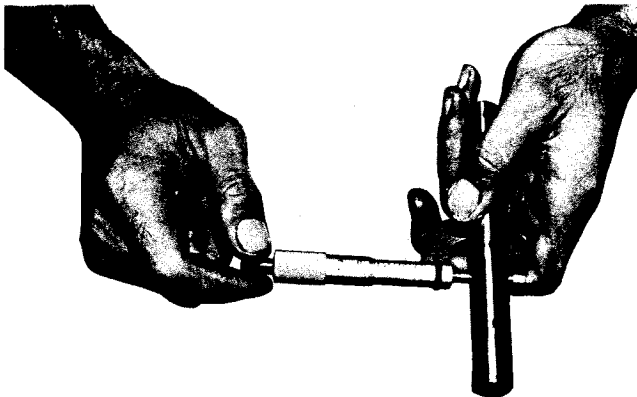

Fig. 4-5, (N10411). Measuring cam follower shaft
1. Measure O.D. of shaft with micrometers. Fig. 4-5. Dimensions should be 0.7485 to 0.749 inch [19.012 to 19.02 mm]. If worn smaller than 0.748 inch [19.00 mm] mark for replacement.